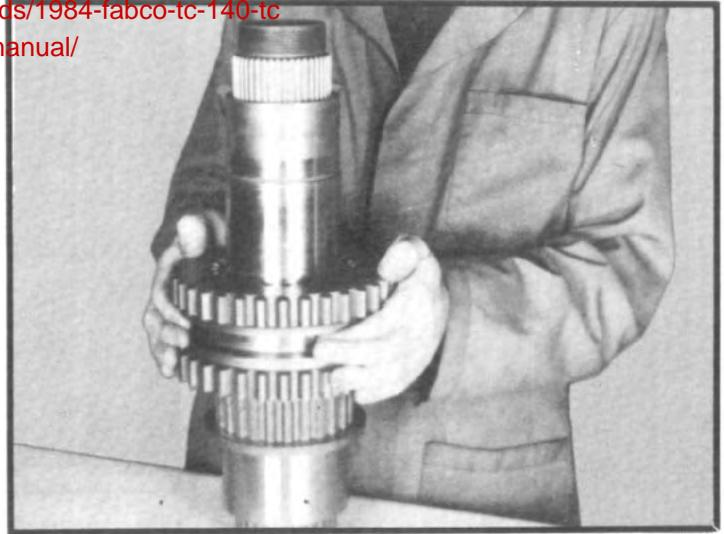

Fig. 58
2.24 If necessary to remove the needle bearing inner race and thrust rings from the shaft, place the shaft vertically on a table and tap the clutch gear on the thrust washer. This procedure will push the inner race off the shaft. Repeat this operation for the opposite side. (See fig. 58.)